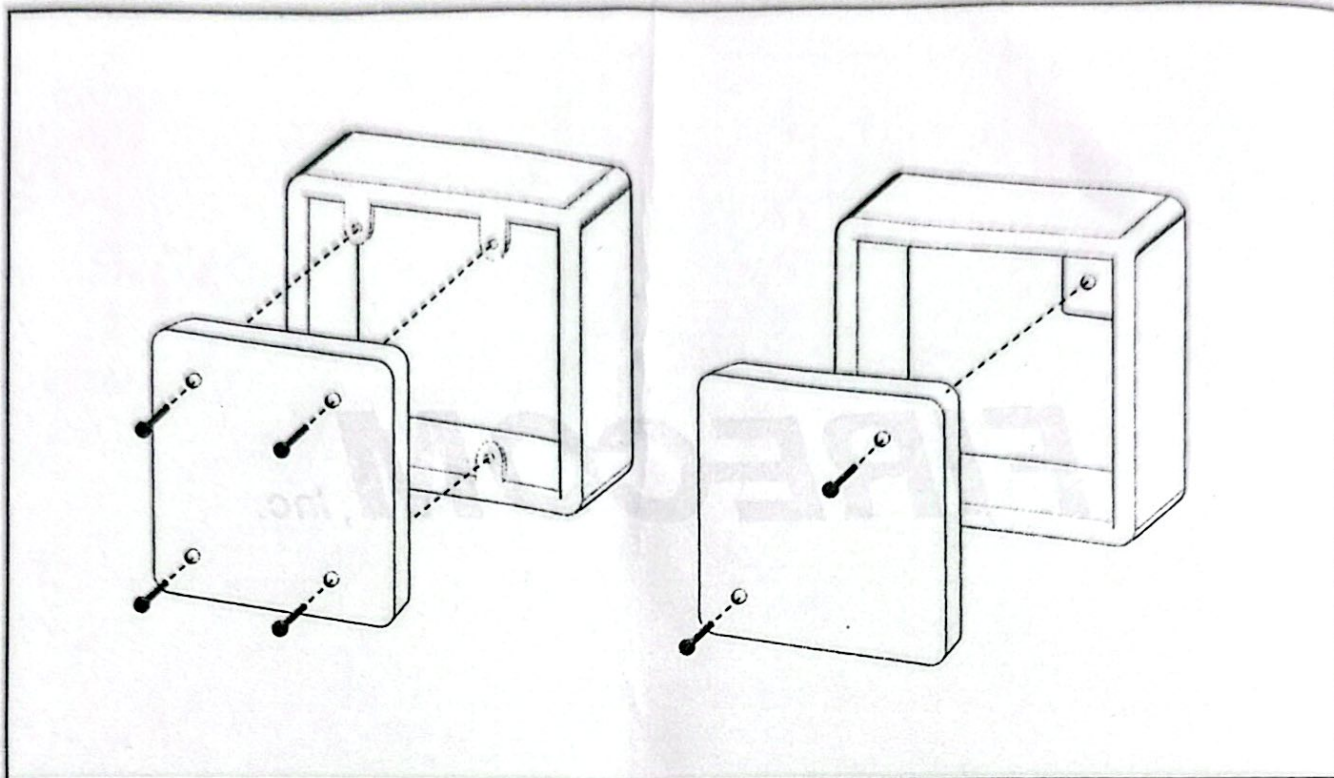

Fig 1. Mounting the XP95A Dual Input Monitor Module
4. Drill holes in the fascia plate corresponding to the threaded holes on the mounting box selected. (Fig 1)